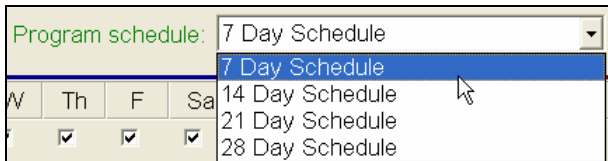

Figure 16.1.7B
- In the **Program Schedule** box using the drop down arrow to the right choose which type of schedule that you want (Figure 16.1.7B).